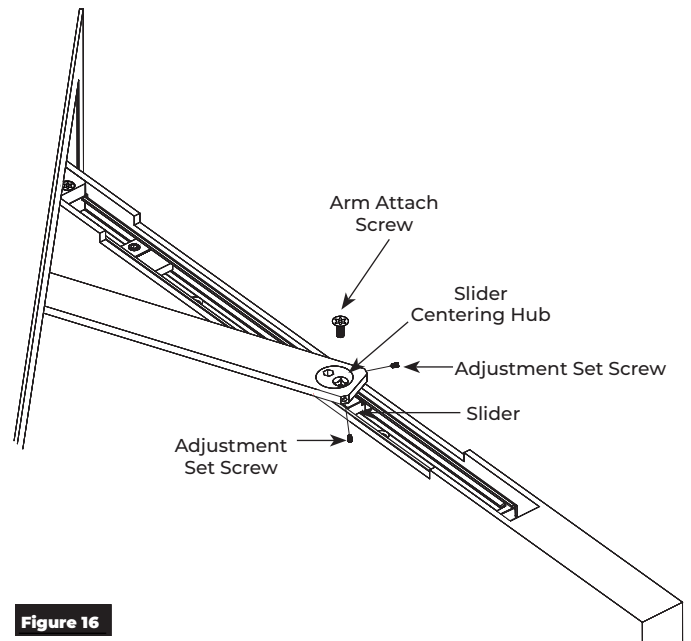

Figure 16
3. Install slider centering hub through arm into slider. (Figure 16)
5. Insert arm attach screw, 1/4-20 x 3/4-FHMS-TORX w/Nylon Patch, and tighten using a T30 Security Torx bit. (Figure 16)